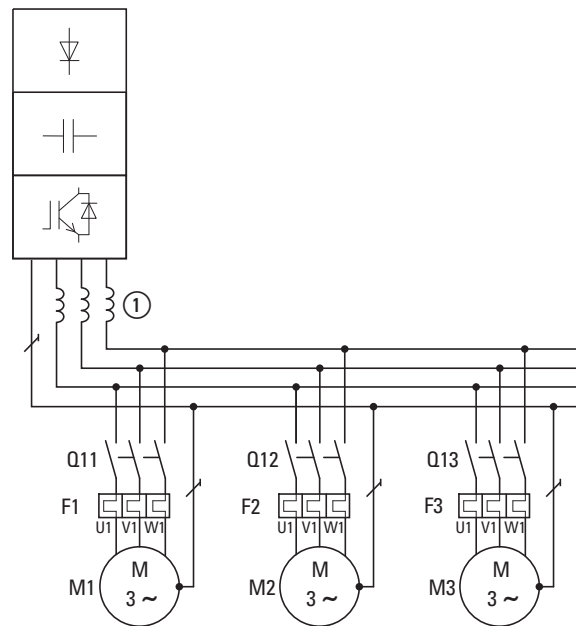

Figure 12: Parallel connection of several motors to one frequency inverter
To reduce the current distortion, you should use motor reactors (see ① in Figure 12) in the output of the frequency inverter (→ Section 9.8, „Motor reactors“, page 182).